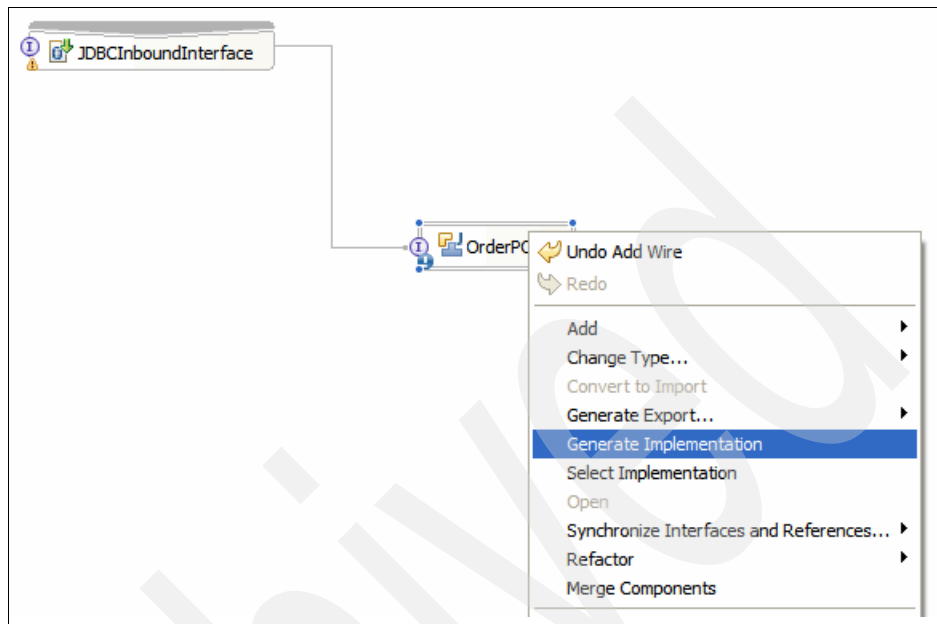

Figure 6-21 *Selecting Generate Implementation*
5. Right-click the **OrderPOJO** SCA component and select **Generate Implementation** (Figure 6-21).